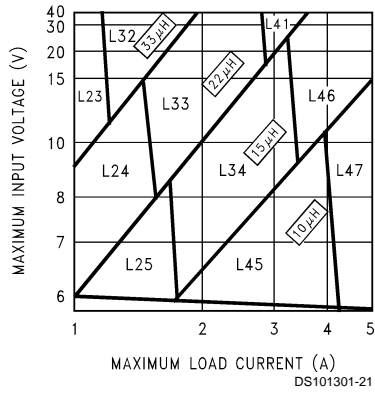
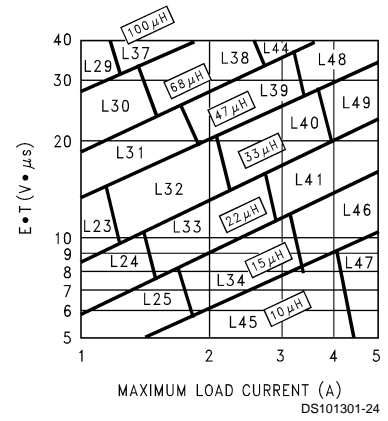

FIGURE 3. LM2677-3.3
FIGURE 6. LM2677-ADJ
Step 3: Determine the inductor required by using one of the four nomographs, *Figure 3* through *Figure 6*. Table 1 provides a specific manufacturer and part number for the inductor.
Step 5: Determine an input capacitor from Table 4 for fixed output voltage applications. Use Table 2 to find the specific capacitor type. For adjustable output circuits select a capacitor from Table 2 with a sufficient working voltage (WV) rating greater than $V_{in\ max}$, and an rms current rating greater than one-half the maximum load current (2 or more capacitors in parallel may be required).
Step 3: Use the nomograph for the 3.3V device, *Figure 3*. The intersection of the 16V horizontal line ($V_{in\ max}$) and the 2.5A vertical line ($I_{load\ max}$) indicates that L33, a 22 μ H inductor, is required.
Step 3: To use the nomograph for the adjustable device, *Figure 6*, requires a calculation of the inductor Volt•microsecond constant ($E \cdot T$ expressed in $V \cdot \mu S$) from the following formula:
Using *Figure 6*, the intersection of $27V \cdot \mu s$ horizontally and the 2A vertical line ($I_{load} \max$) indicates that L38, a $68\mu H$ inductor, should be used.
Important Note: When using the adjustable device in low voltage applications (less than 3V output), if the nomograph, *Figure 6*, selects an inductance of $22\mu H$ or less, Table 6 does not provide an output capacitor solution. With these conditions the number of output capacitors required for stable operation becomes impractical. It is recommended to use either a $33\mu H$ or $47\mu H$ inductor and the output capacitors from Table 6.